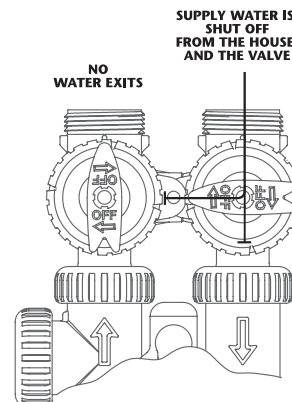

Figure 4
4. **Shut Off Position:** The inlet handle points to the center of the bypass valve and the outlet handle points away from the control valve. The water is shut off to the building. The water treatment system will depressurize upon opening a tap in the building. A negative pressure in the building combined with the softener being in regeneration could cause a siphoning of brine into the building. If water is available on the outlet side of the softener or filter, it is an indication of water bypassing the system (**Fig. 4**) (i.e. a plumbing cross-connection somewhere in the building).